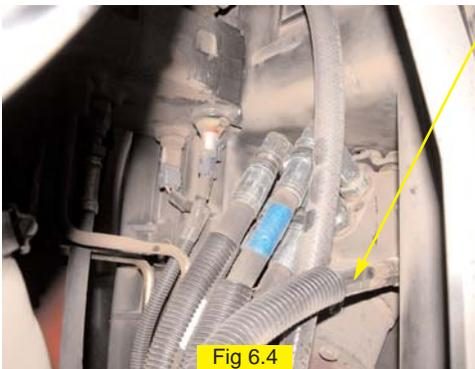

Fig 6.4
Locate the small load sense hose on the left side of the steering orbital. (Figure 6.4) Using the small #6 STC release tool (I), remove the load sense hose from the steering orbital. Connect the center position (M) of the prepared load sense valve to the tractor load sense hose. (Figure 6.5) Connect the provided hose (N) between the load sense fitting on the steering orbital and the end of the load sense shuttle with the straight adapter fitting as shown on page 7. (Figure 7.1 and 7.2)